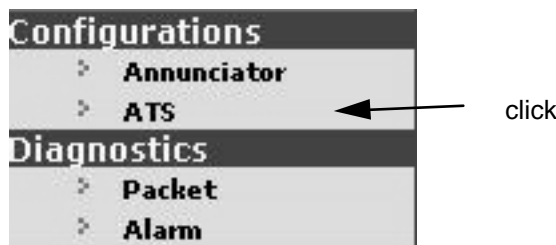

Figure 10: Configurations > ATS
5. On the left pane, under *Configurations*, click *ATS* to configure the ATS that will be monitored. See Figure 10.